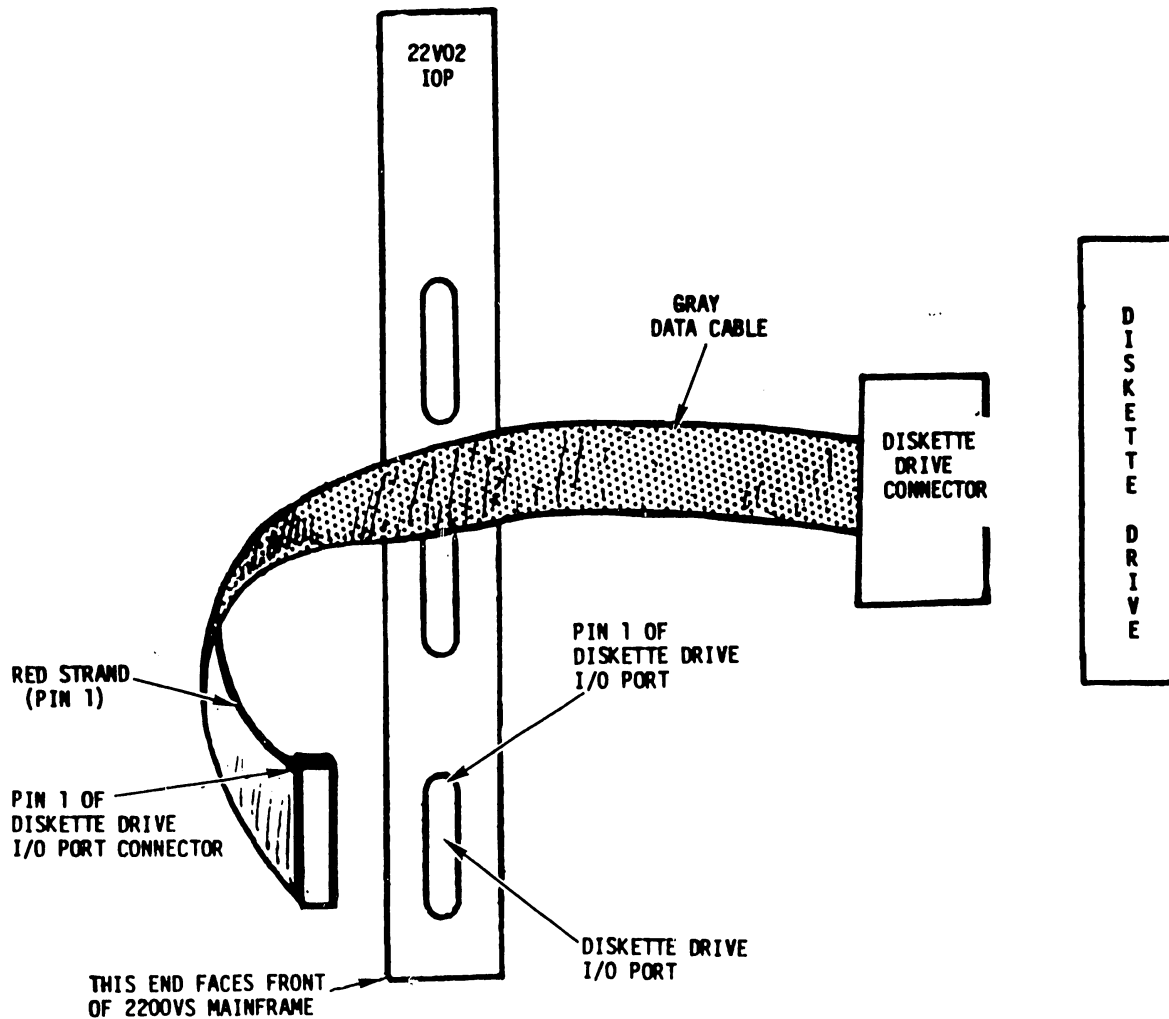

FIGURE 3-12
5. Once all of the IOPs have been installed, place all logic card support bars back into place and secure them. Do not attach any cables to the IOPs at this time, except for the gray data cable (WL# 220-3030) from the floppy drive. Attach that cable to the 22V02 IOP, making sure that pin 1 of that cable (indicated by a red stripe on the cable) matches up to pin 1 of the 22V02 floppy port (Ref: Figure 3-12).